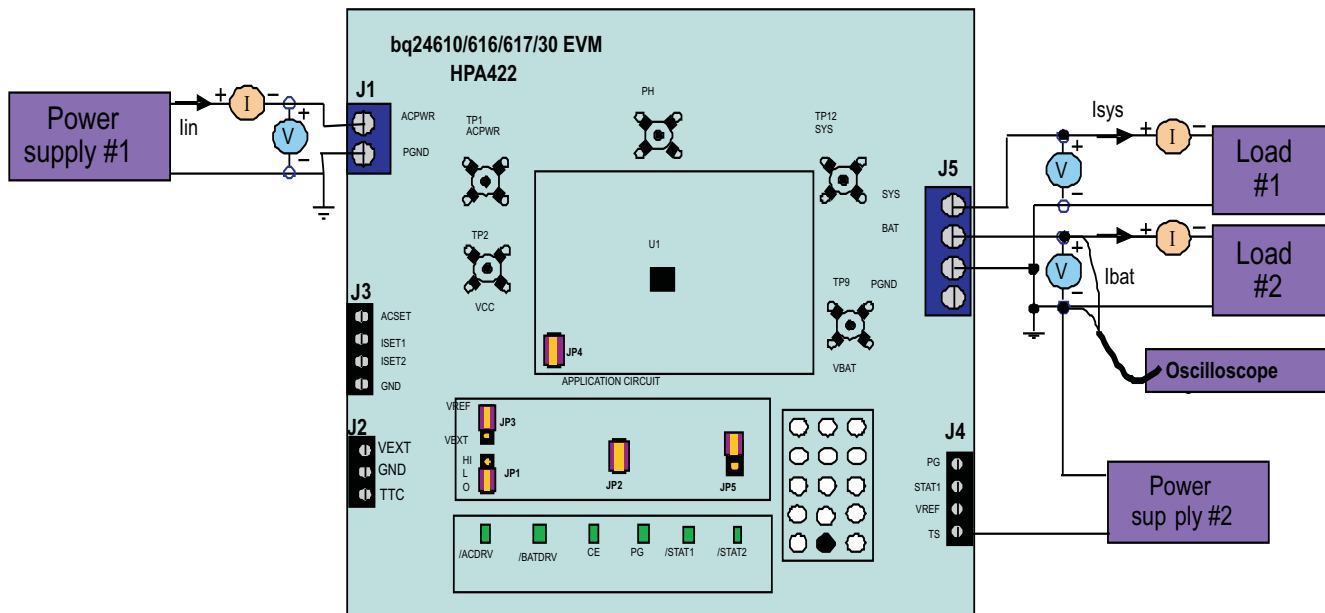

Figure 1. Original Test Setup for HPA422 (bq2461x/bq2463x EVM)
After the above steps, the test setup for HPA422 is shown in Figure 1.
3. Connect the output of the Load #1 in series with a current meter (multimeter) to J5 (SYS, GND). Make sure a voltage meter is connected across J5 (SYS, GND). Turn on the power of the Load #1. Set the load current to $3.0\text{A} \pm 50\text{mA}$ but disable the load #1. The setup is now like Figure 1 for HPA422. Make sure $I_{bat} = 0\text{A} \pm 10\text{mA}$ and $I_{sys} = 0\text{A} \pm 10\text{mA}$.